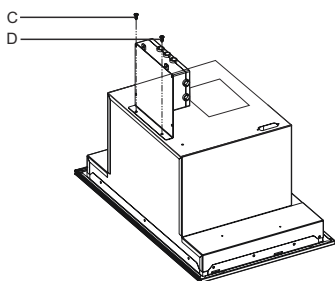

Fig. 12
2. ➔ Put the circuit box you removed on points C, D on the body of the hood (Fig. 12).